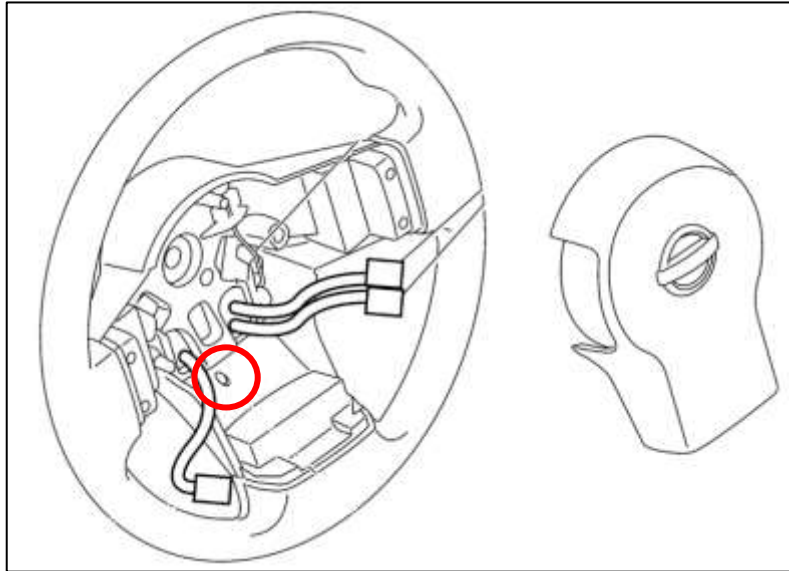

Figure 7
- a. Locate the Retaining Clip Access Hole on the backside of the Steering Wheel. *Figure 7.*